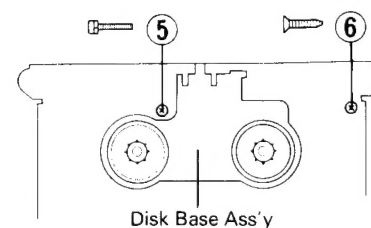
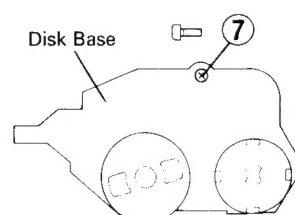

Fig. 6-10
Fig. 6-11
Remove three screws ⑤, ⑥ and ⑦ retaining the disk base unit. (Fig. 6-10, Fig. 6-11)